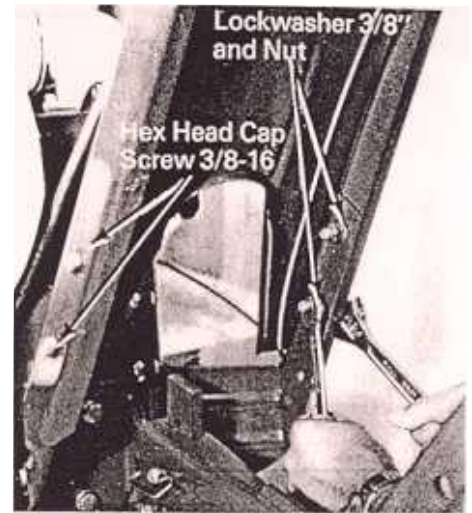

Figure 3
- 1 Assemble the handle to the handle brackets with the four hex head cap screws 3/8-16 x 1" long, lockwashers 3/8" and hex locknuts 3/8-16. (See figure 3.)